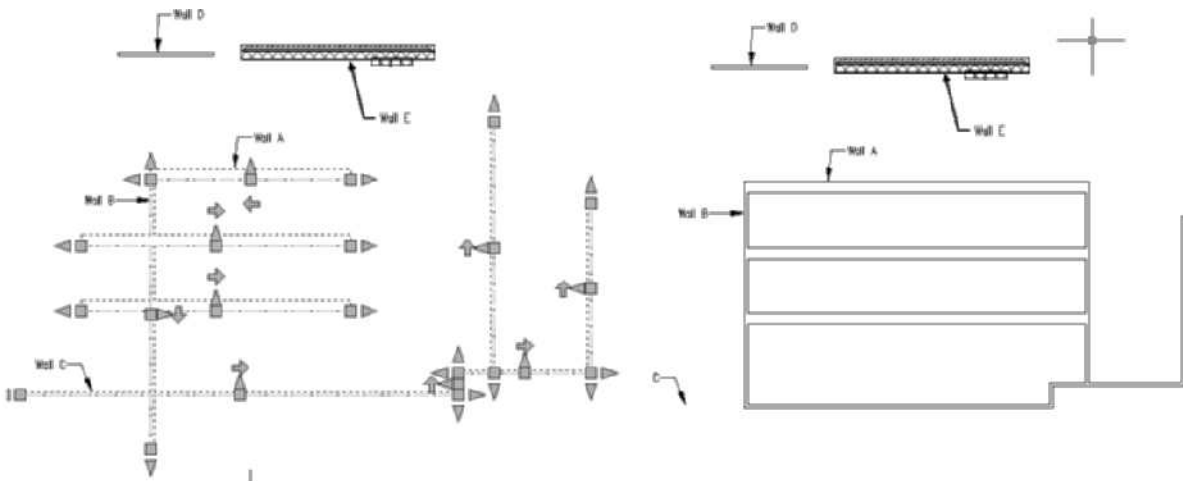

FIGURE 2.37 Wall selected for Intelligent Cleanup
13. Select all walls except Wall D and E shown in Figure 2.37, and choose **Intelligent Cleanup** from the Cleanup panel of the Wall tab. Respond to the workspace prompts as shown below:
(Walls trimmed and extended as shown at the right in Figure 2.37. Press ESC to clear selection.)